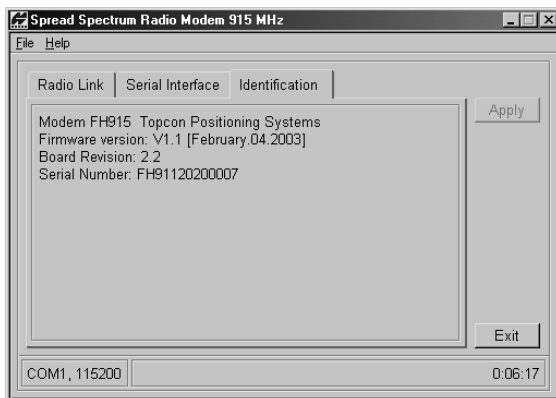

Figure 2-31. Modem-TPS Identification Tab
- Click the **Identification** tab to view information on the modem type, firmware version, board revision, and serial number (Figure 2-31).